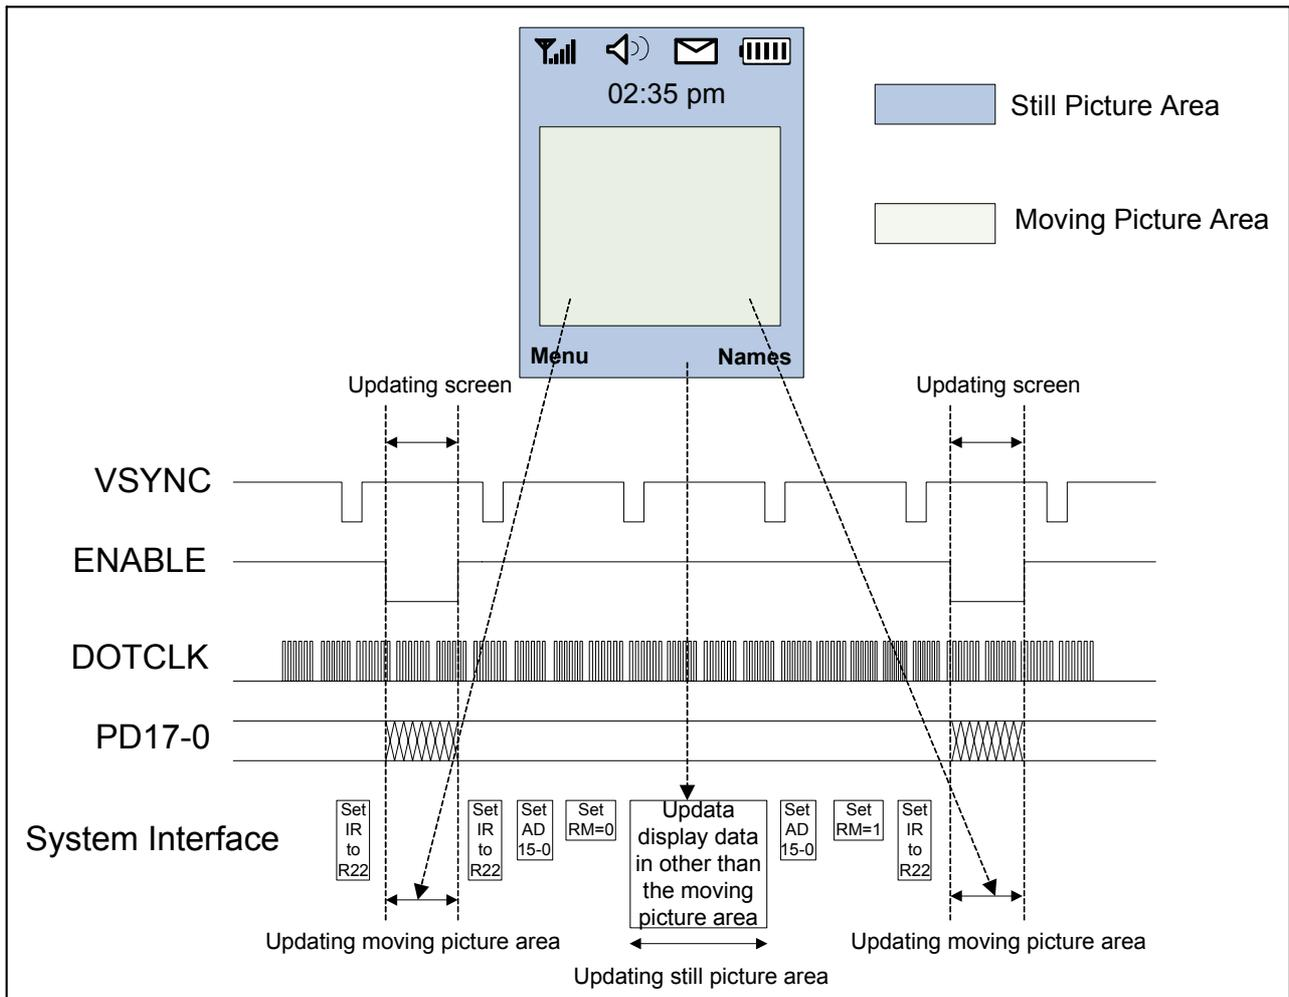

Figure 24 Update Still and Moving Picture
The FGD0801 supports two types of RGB interface mode, the difference between them is the RAM access using the RGB interface (DB17-0) or system interface (DB17-0). The data written to the internal GRAM are synchronized with DOTCLK inputs when ENABLE is setting low. Contrary to set ENABLE high, the data written to the GRAM would be entered to the process of using the system interface. Further, when select to use system interface, set ENABLE high to stop using the RGB interface for writing data, and then set the RAM access setting bit bus (RM) low to invert RAM access operation by using system interface. After that, set address AD15-0 on falling edge of VSYNC and then set the index field of register (R22h) to access RAM via the system interface. The FGD0801 allows rewriting data in the still picture area by using the system interface when displaying a moving picture in RGB interface mode. When return to use RGB interface to access RAM, set address AD15-0, RAM access setting bit bus (RM=1) and the index field of register (R22h) before accessing RAM via RGB interface. The Figure24 is shown the process of RAM access via the system interface with rewriting still picture and then return to RGB interface while displaying a moving picture in RGB interface mode.